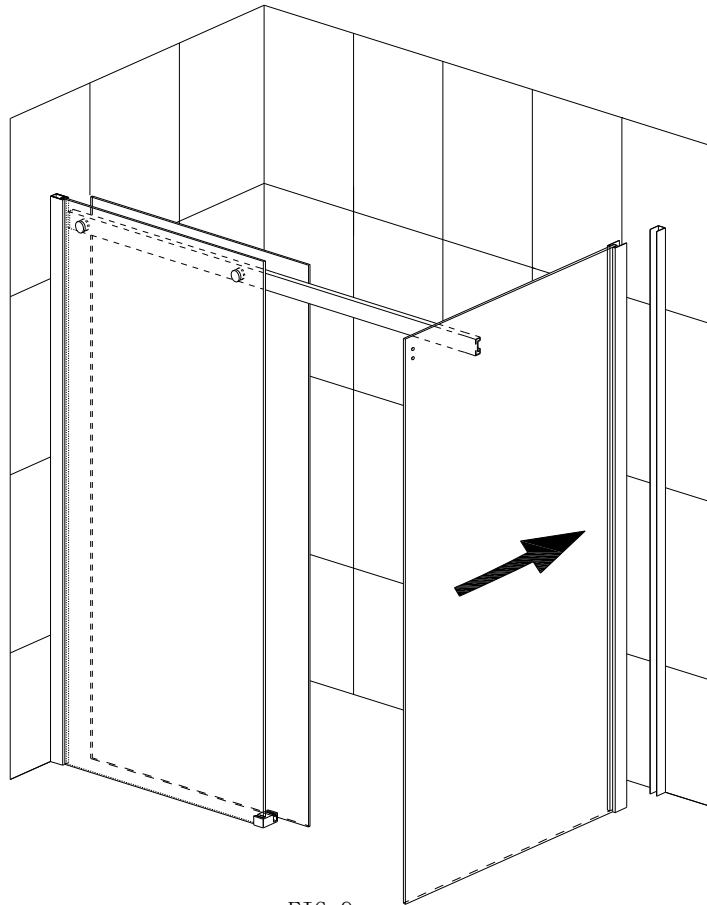

FIG. 9
9) Connect the side fixed glass door (22) to the right side wall. As Fig. 9